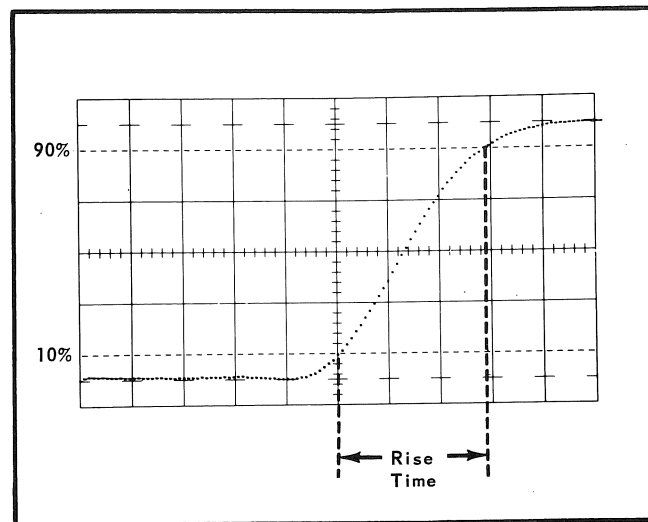

Fig. 5-4. Measuring risetime.
- Check that the risetime, see Fig. 5-4 is equal to or less than 2.5 ns.